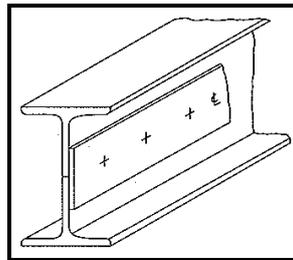

FIGURE 4.1
4.1 Identify the template shown in FIGURE 4.1 below.